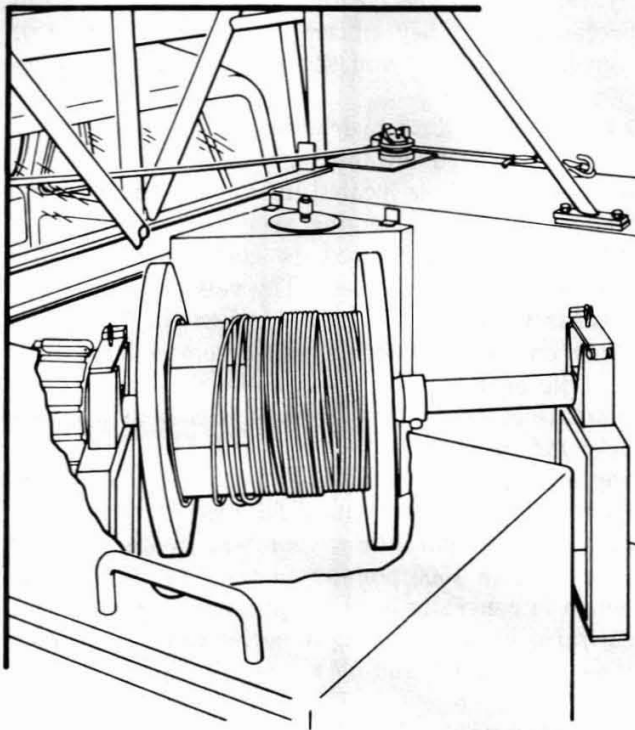

Fig. 13—Strand Reel Carrier
- (2) Hydraulic reel carrier—Usually located in the right rear bin. Check 3500-pound carrier with arms in down position. Check 2500-pound carrier with arms in up position. (See Fig. 13.)